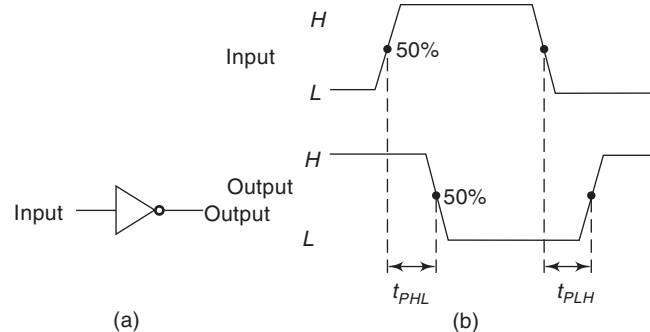

Fig. 9.3(b) Solution for Problem 9.6.
9.6 Show the propagation delay times of the inverter in Fig. 9.3(a).
The propagation delay times t_{PHL} and t_{PLH} are indicated in Fig. 9.3(b). In this case, the delays are measured between the 50% points of the corresponding edges of the input and output pulses. The values of t_{PHL} and t_{PLH} are not necessarily equal but in many cases they are the same. The propagation delay time specified on the logic gate data sheets is usually the average of t_{PHL} and t_{PLH} .